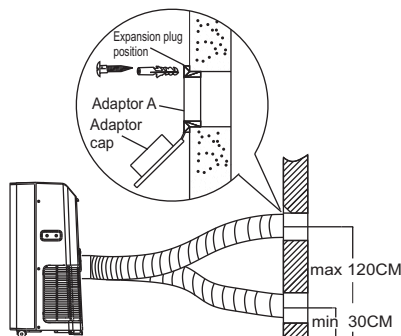

Fig.19
1. Prepare a hole in the wall. Install the wall Exhaust adaptor A onto the wall(outside) by using 4 expansion plugs and wooden screws, be sure to fix thoroughly. (See Fig.19)